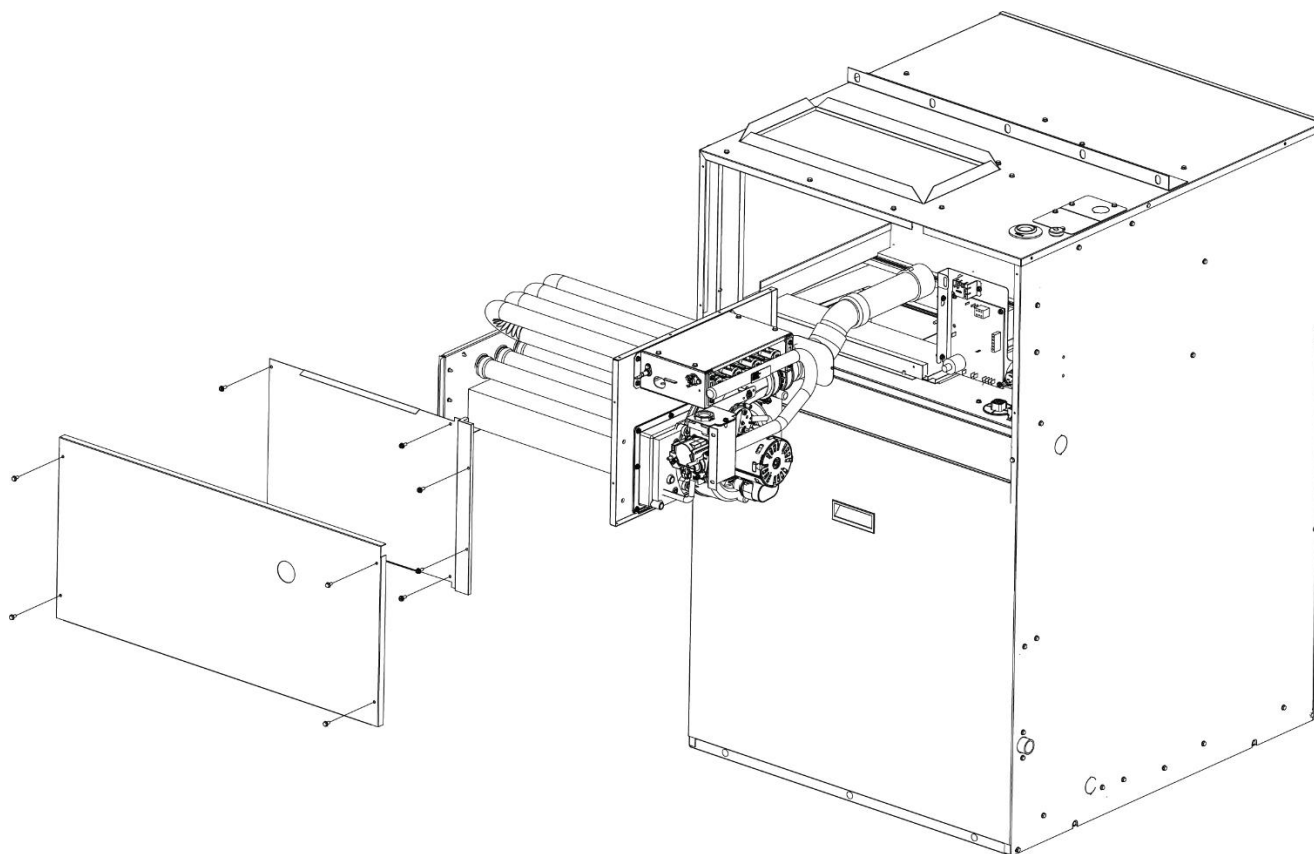

FIGURE 43 – Heating Access Panel Removal
- 3) **FIGURE 43 – Heating Access Panel Removal**